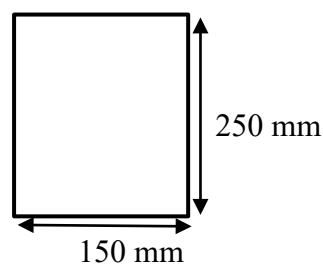

Figure B3(b) / Rajah B3(b)
- CLO2 (b) Calculate the shear stress at 45 mm distance from neutral axis at rectangular beam in Figure B3(b) below. Given shear force is 50 kN.